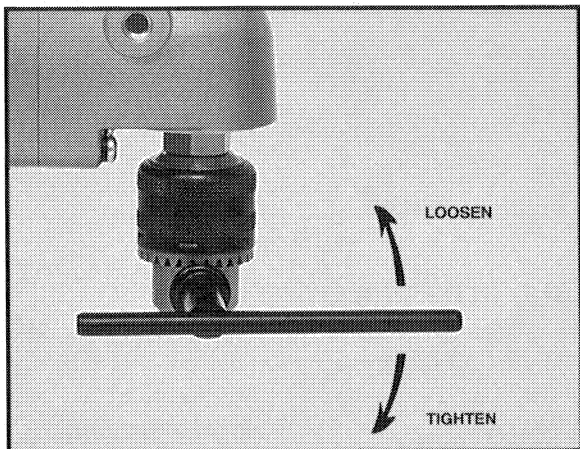

Fig. 1
5. Tighten chuck – insert chuck key into each of 3 keyholes in chuck body (Fig. 1) in succession and tighten securely by turning key clockwise.